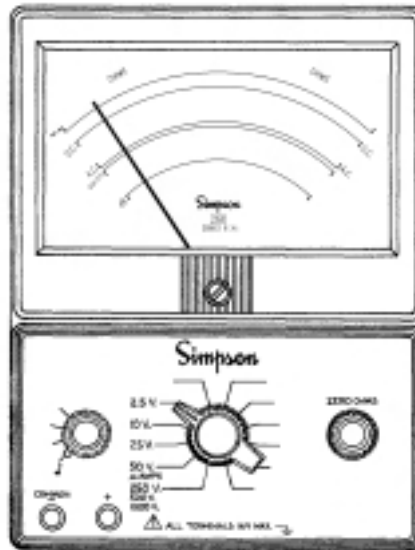

Figure 4-13. Jacks and Switch Positions for Continuity Tests
- a. Set the FUNCTION switch to the "Ω." Insert the black test lead into the COMMON (-) and the red test lead into the (+) jacks, (Figure 4-13).